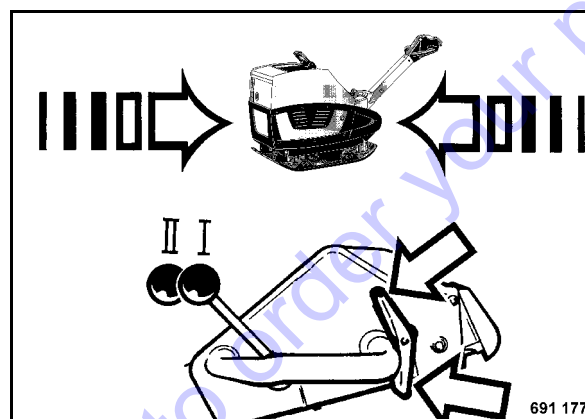

Fig. 37
- Operate the travel lever (tip switch) (Fig. 37), until the vibratory plate vibrates on the spot.